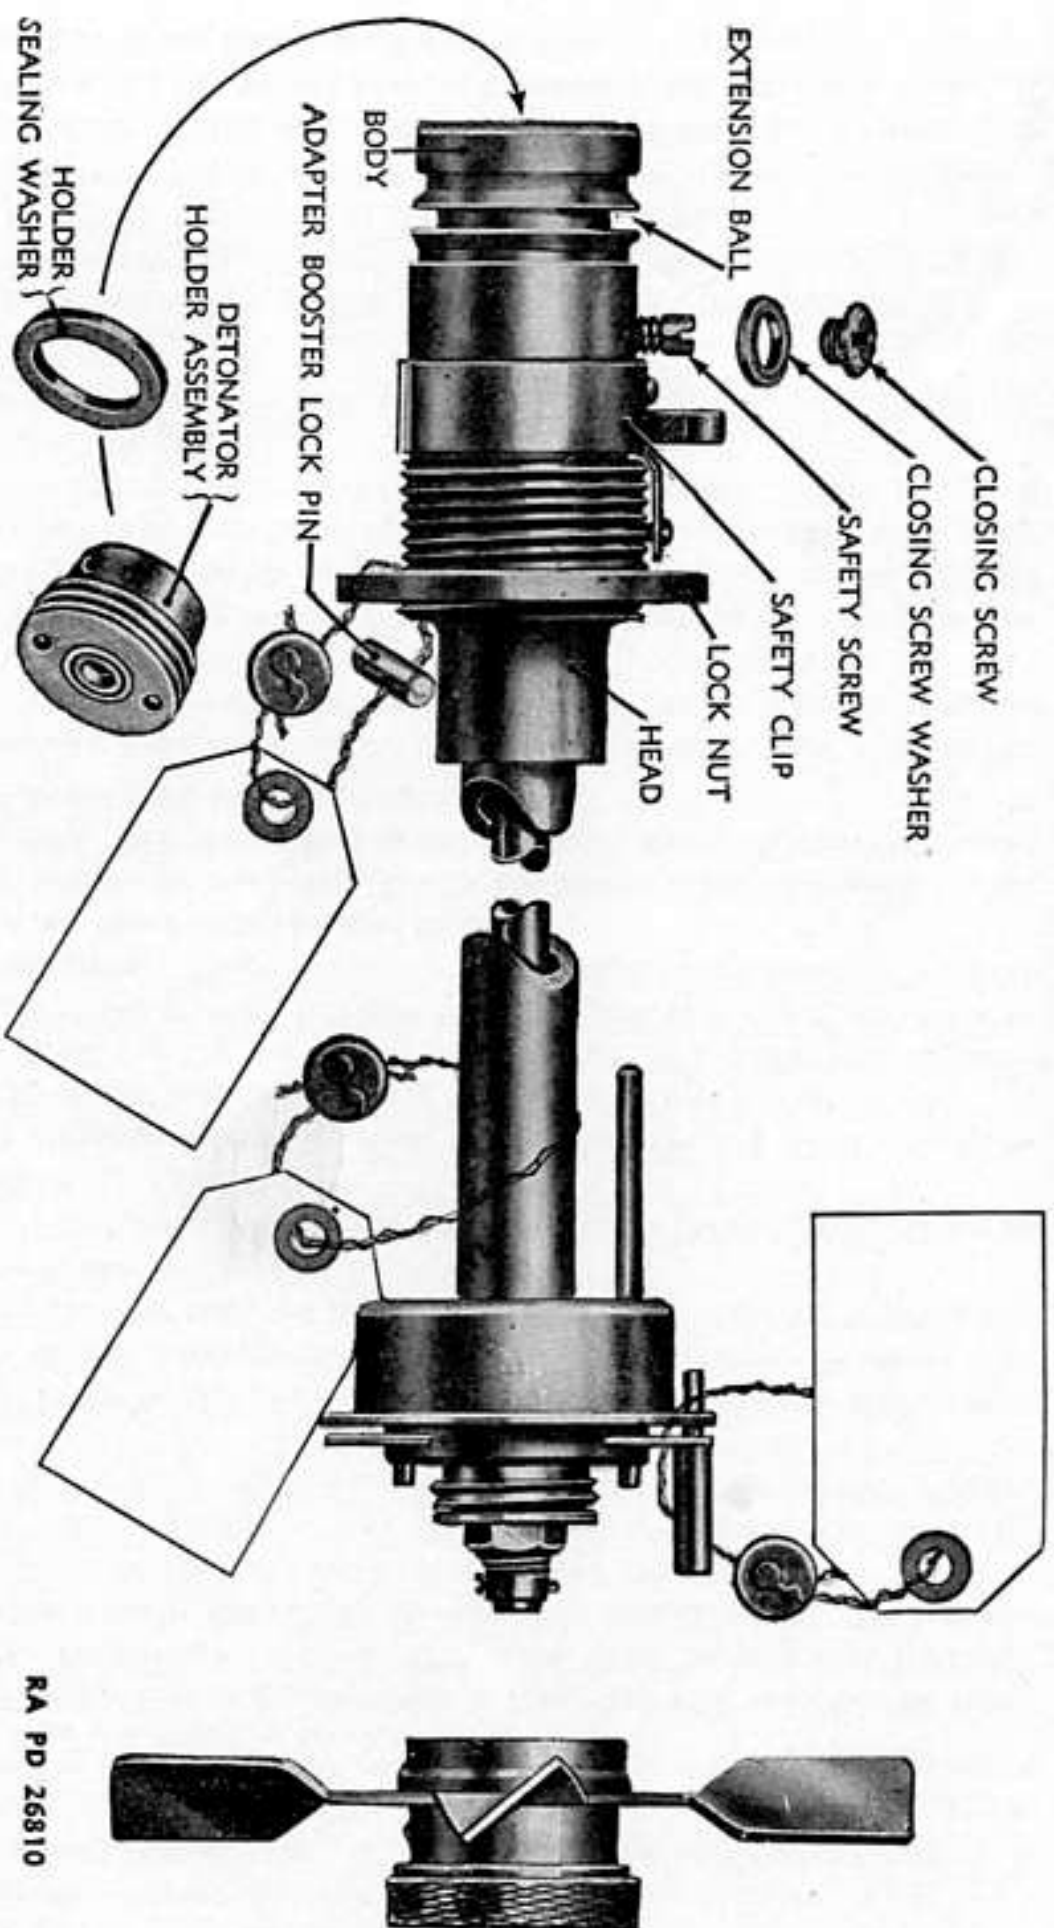

Figure 84. FUZE, bomb, M132, M133, and M134.
b. Description. (1) The vane reduction gears and arming vane of this fuze is the same as Tail Bomb Fuzes M123, M124, and M125, and the general over-all appearance is somewhat similar to these fuzes. (See fig. 84.) However the M132-series fuzes can be readily differentiated from the M123-series fuzes by the reduction of the diameter of the head beyond the lock nut in the M132-series.
(2) The time delay mechanism of these fuzes is somewhat different from that used in Fuzes M123, M124, and M125. This mechanism has a metal bellows containing a red-colored solvent which is released at the time of arming the fuze. The solvent acts upon a celluloid cylinder to produce the delay action.
(3) An antiwithdrawal device, which is the same as used in Tail Bomb Fuzes M123, M124, and M125, is contained in these fuzes.